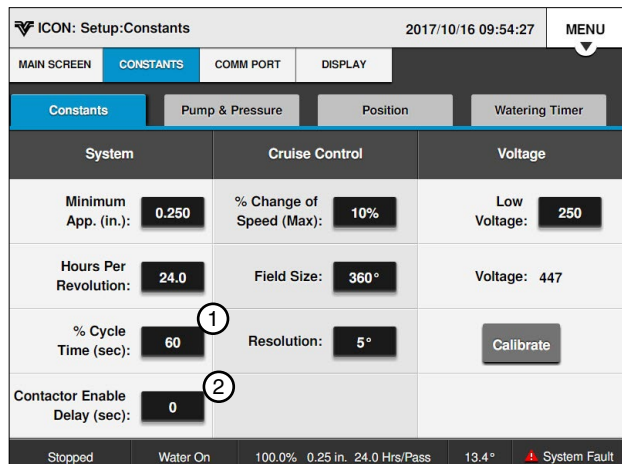

Figure 16-1 System Voltage Screen
1. Push the **Menu, Setup, Constants, and Constants** to display the System/Voltage screen. Refer to Figure 16-1.
The Contractor Enable Delay sets the delay (in seconds) until the contractor can be enabled. The range can be set from 0 to 5,000 seconds. Refer to Figure 16-1.